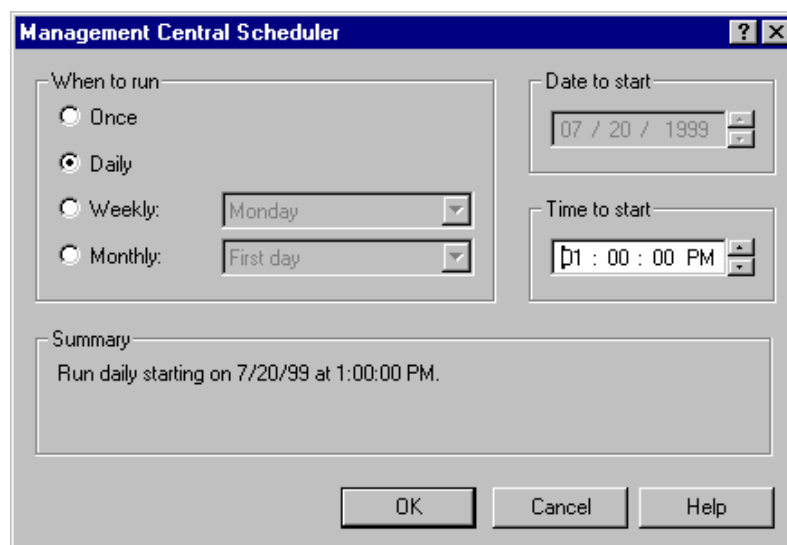

Figure 115. Management Central Scheduler window: Scheduling stop collecting
3. Click on **Schedule** to open the Management Central Scheduler window and complete it as shown in Figure 115.